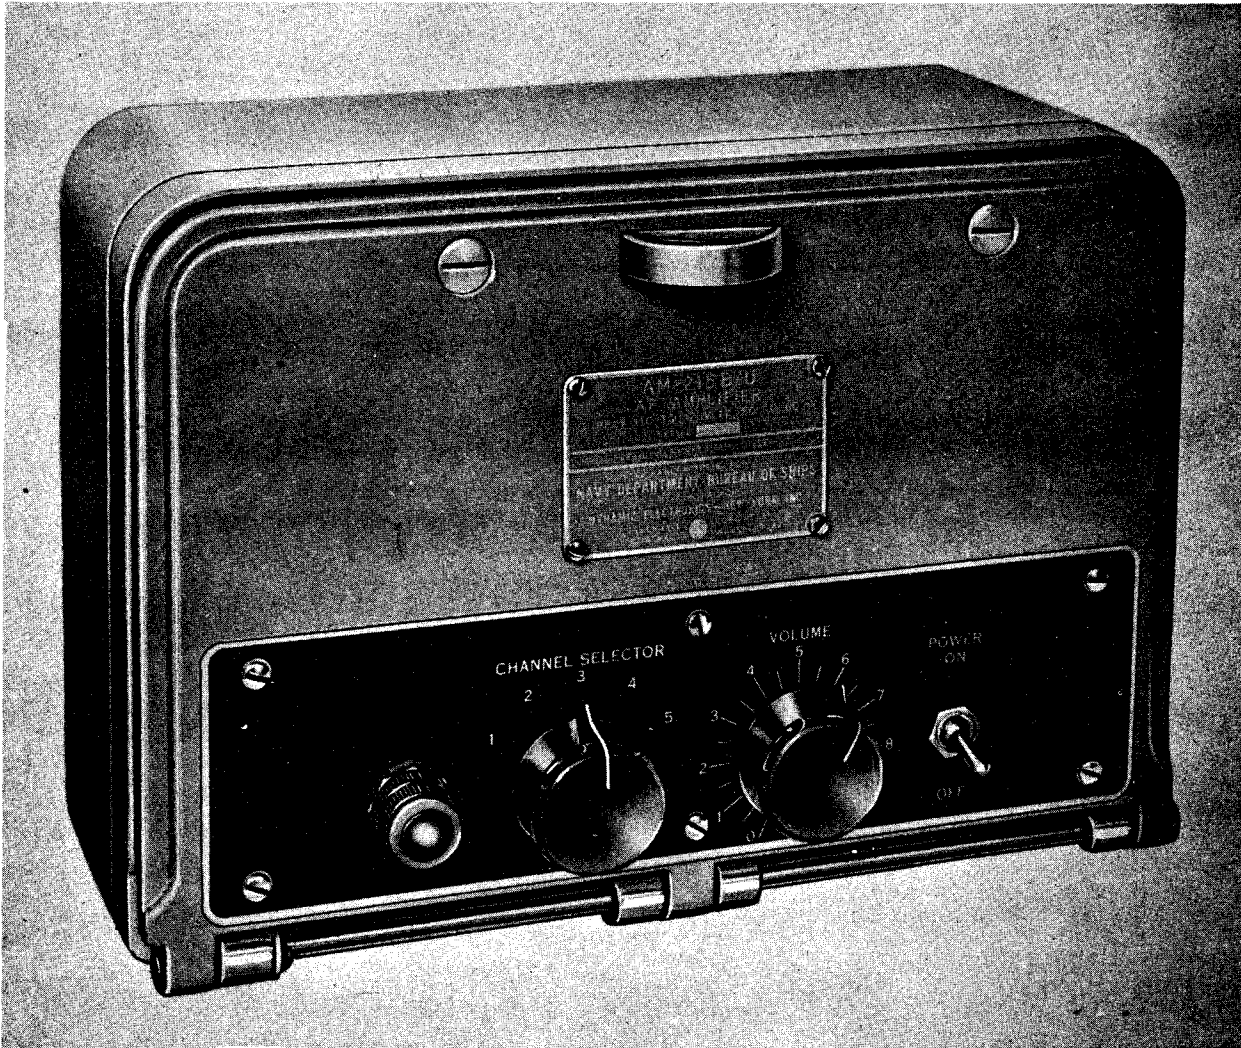

Figure 1-1. A.F. Amplifier AM-215B/U
a. The A.F. Amplifier AM-215B/U (see figure 1-1) is a multiple input audio frequency amplifier designed for general communication work in conjunction with Naval electronic receiving equipment and associated loudspeaker units.